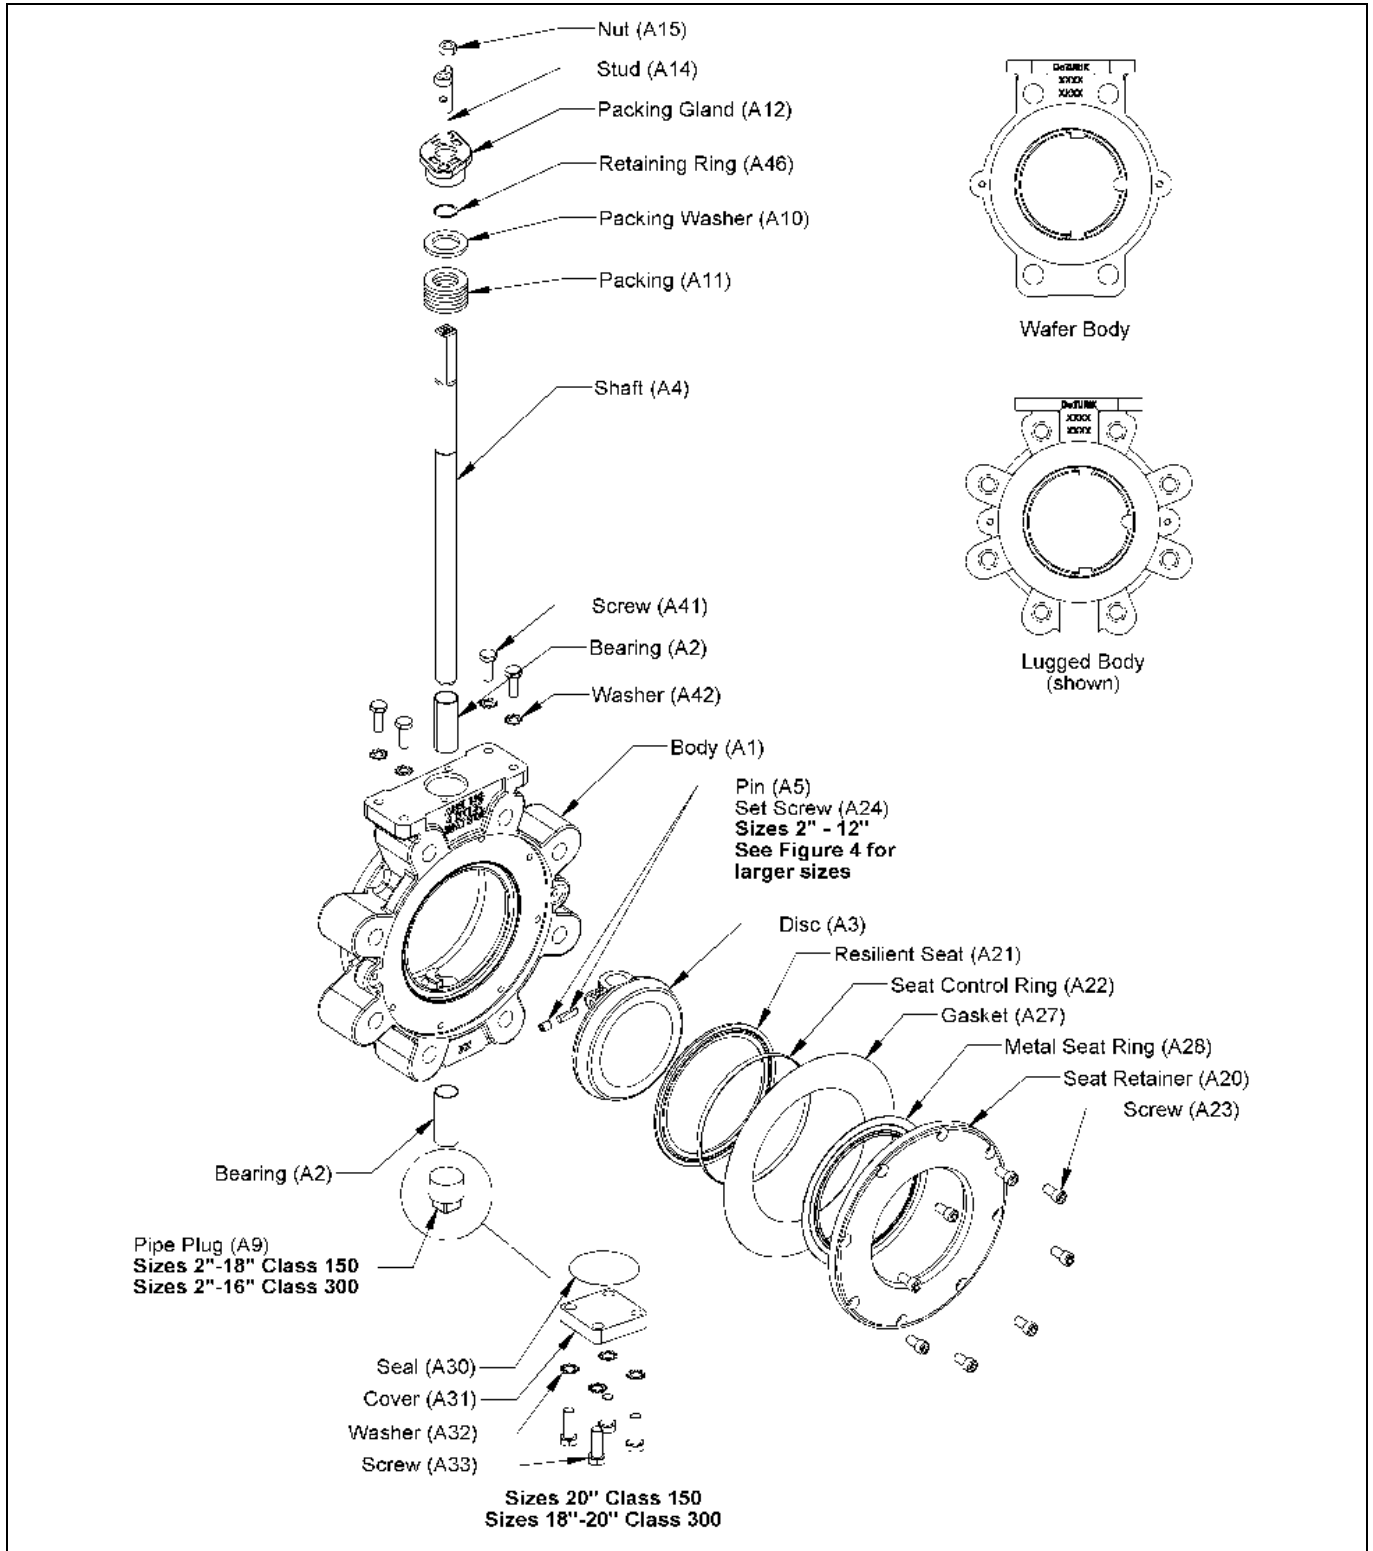

Figure 1 – Component Identification
See Figure 1 for parts identification.
2. Refer to Figure 1 (page 6) for component identification.
Refer to Figure 1 (page 6) for component identification.